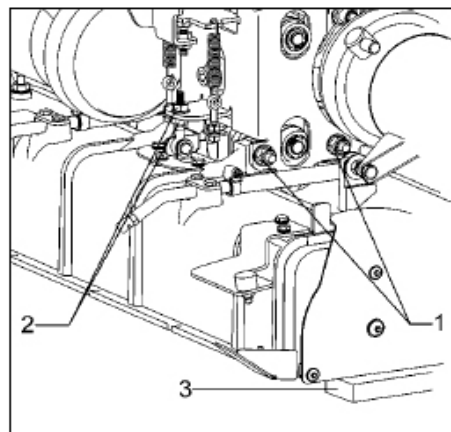

Figure 30 - Scrub Head Adjustment
1. Loosen fixing screws (Figure 30/1) at the left and right side of the machine.
2. Loosen hexagonal nuts (Figure 30/2) of the fine adjustment.
3. Before proceeding with the fine adjustments, make sure that the scrub head is evenly positioned on two level blocks (Figure 30/3).
7. After initial adjustment at both sides of the scrub head according to Figure 30, proceed as follows: